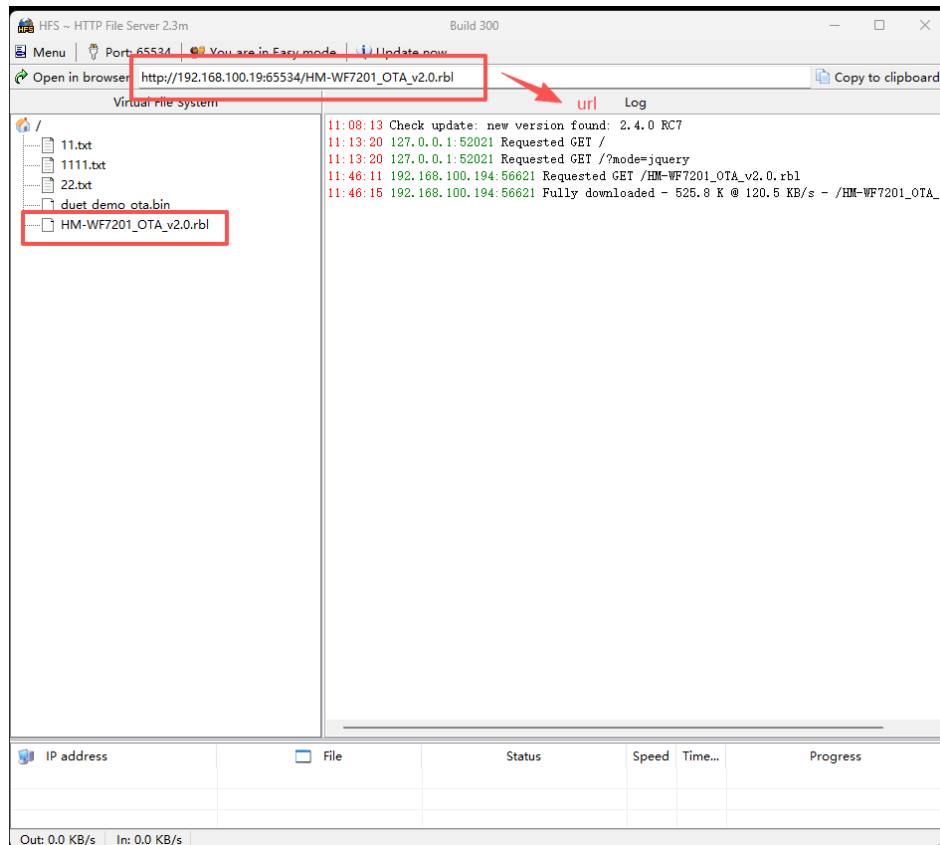

Figure 8-1 Using the "HFS" tool to build an HTTP SERVER
- 2、 Set up an HTTP SERVER on the PC and load the OTA firmware. This example uses the "HFS" tool. It is recommended to turn off the PC firewall to avoid blocking access to the HTTP SERVER. See Figure 8-1.
AT+OTA = http://192.168.100.19:65534/HM-WF7201_OTA_v2.0.rbl // Refer to Figure 8-1